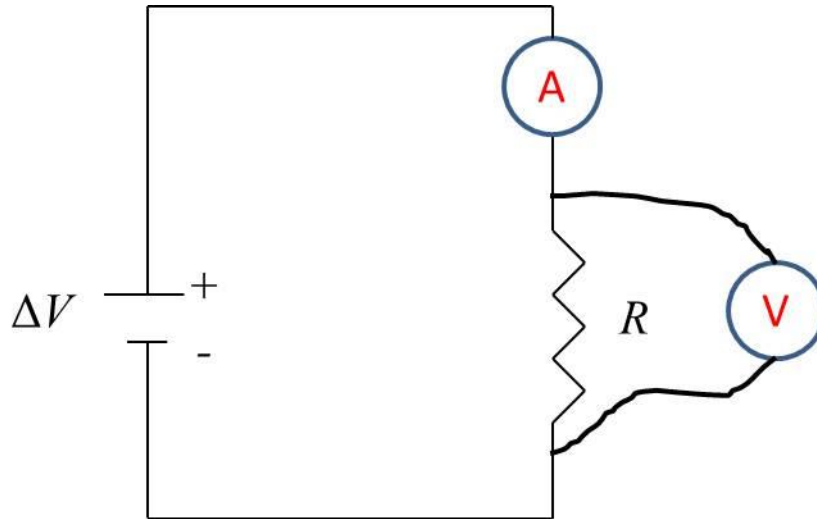
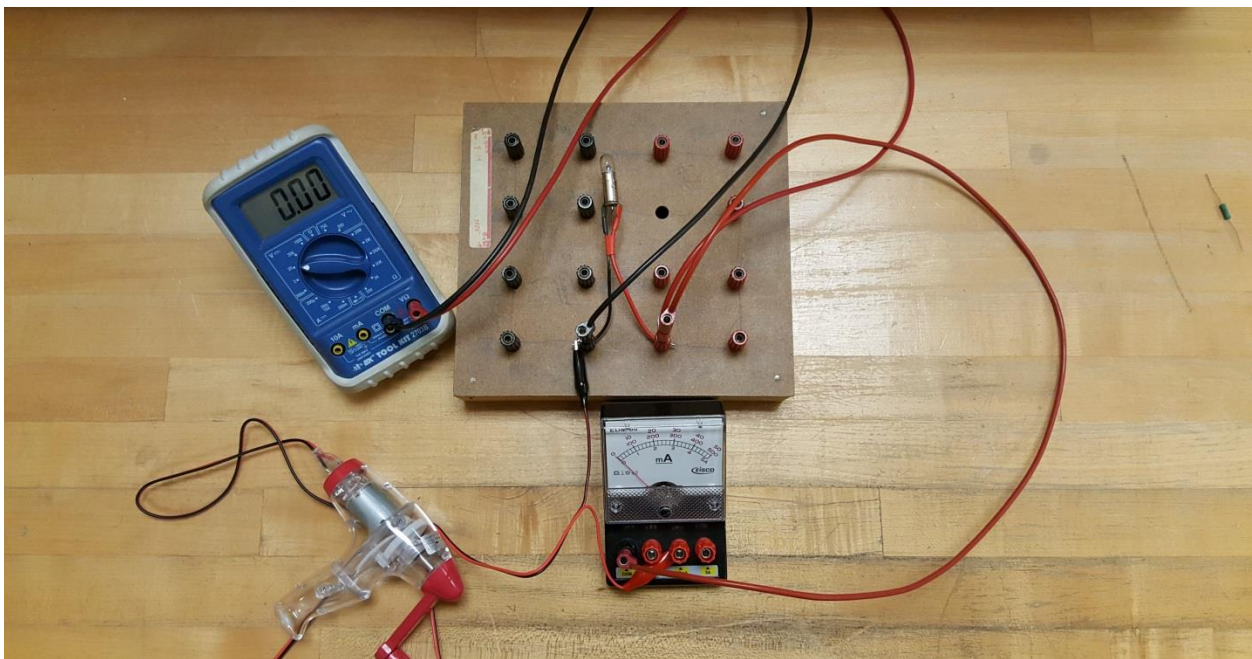

Figure 2
Figure 3
If we connect a single resistor to a fixed potential difference, we can measure the current through the resistor by using a device called an *ammeter*, and we can measure the potential difference across the resistor by using a device called a *voltmeter*. These are symbolized in Figure 2. Note that the voltmeter must be connected across the ends of the resistor, while the ammeter must in-line with the resistor. In technical terms, we say that the ammeter must be in the same *branch* of the circuit as the resistor, or *in series* with the resistor, while the voltmeter must be *in parallel* with the resistor.
- f) Then, clip one end of the hand-crank generator to the post (or lightbulb wire) at the post not connected to the ammeter. Unscrew the “500 mA” post on the ammeter, just enough so that you can clip the other end of the generator to that post. See Figure 3. This builds the circuit described by Figure 2. Check the connections to see if you can follow the wire-paths and verify that this mimics Figure 2, where the resistor is the lightbulb. If you are unsure, check with your TA. **Record** any nonzero reading on your multimeter. This value must be treated as the zero reading for this meter. If you have one, your measurements in this part of the experiment must be corrected for this offset.
8) Replace the bulb with the resistor. This will require you to loosen the posts to get the bulb wire leads out and put the resistor wire leads in. Remember to not overtighten the posts! Be sure to connect the hand-crank generator to the one end of the resistor, just as it was for the bulb. The circuit should be identical to that from Figure 3, except with the resistor in place of the bulb.